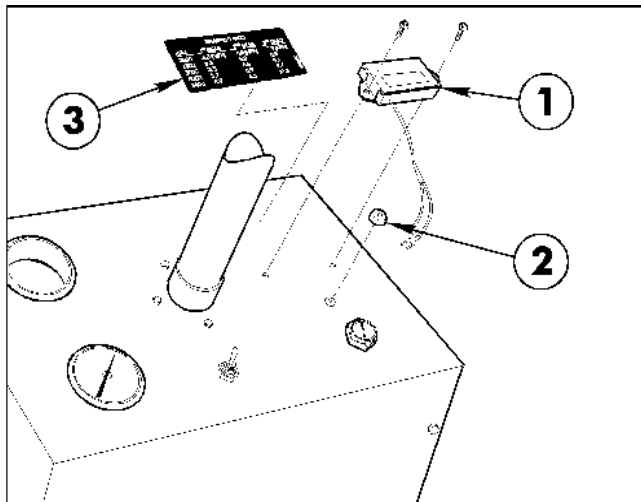

FIG. 1
1. Remove four (4) 1/4" x 5/8" washer hd cap screws to remove the rear panel from the Steering Console.
2. Install the Tachometer to the right side of the Steering Column using two (2) #8 x 5/8" hex hd machine screws, lock washers, and hex nuts. See FIG. 1.
3. Route the Tachometer Cable through the hole in the top of the Steering Console below the Tachometer and install Grommet into hole around Cable. See FIG. 1.